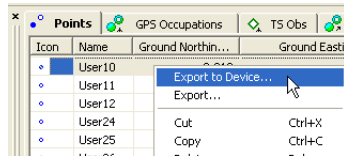

Figure 8-13. Export of the desired data to a Device
- Select the desired data and click **Job ► Export to Device**, or press **Shift+F4**, or click the **Export to Device** Toolbar button, or right-click and click **Export to Device** on the pop-up menu (Figure 8-13) to export data to the coordinate file format and send the created file to the Total Station.